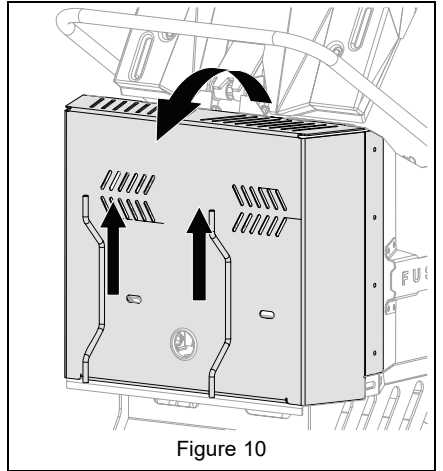

Figure 10
4. Pull access panel handles up and then rearward to remove panel. See Figure 10.